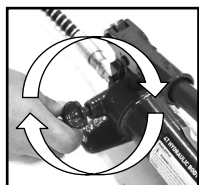

Fig.11
2. To operate the pump assembly (1), position it on a stable, leveled surface close to the damaged area/work area. Ensure the release valve is closed by turning it clockwise (Fig 11), then pump the handle to create pressure (Fig 12).